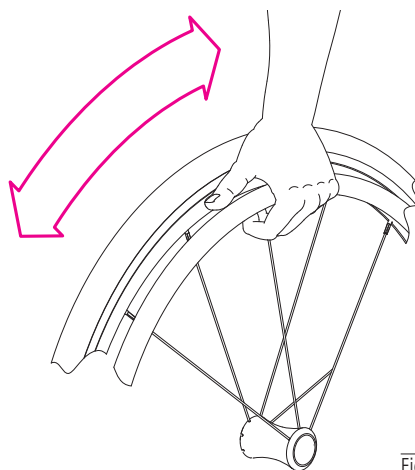

Fig. 12
1. To do this, hold the push rims with your hands and turn the wheel towards the front or back (Fig. 12). Place your hand on the push rim with the thumb in the direction of movement and form a fist enclosing the push rim.